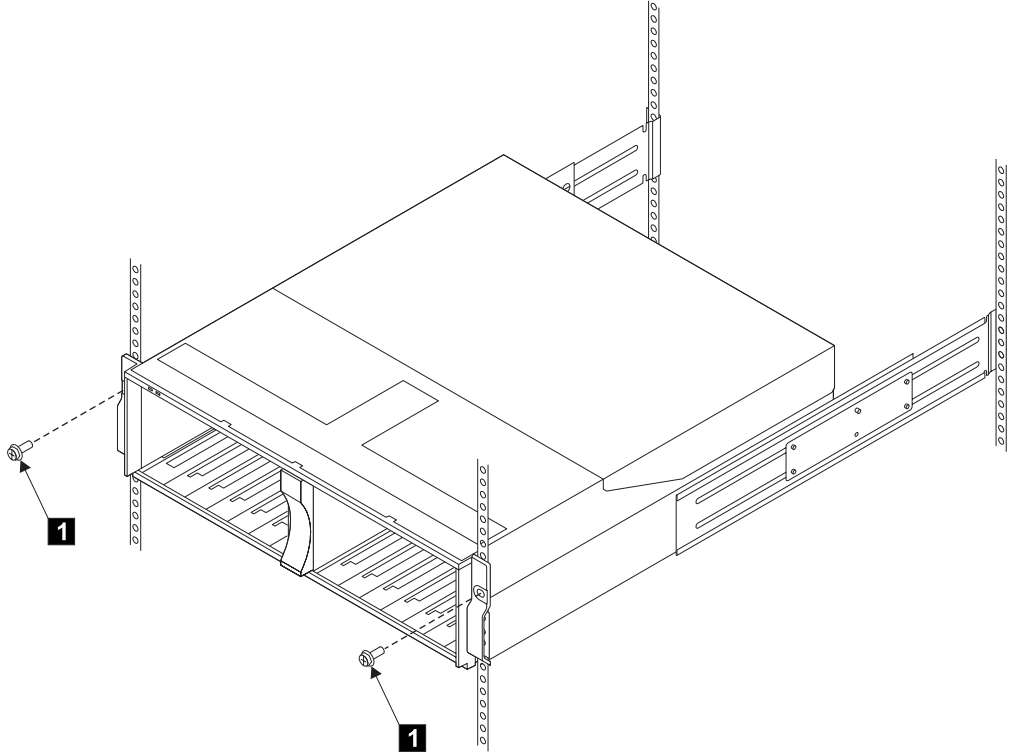

Figure 55. Removing the Front Mounting Screws
Step 4. Refer to Figure 55 on page 112